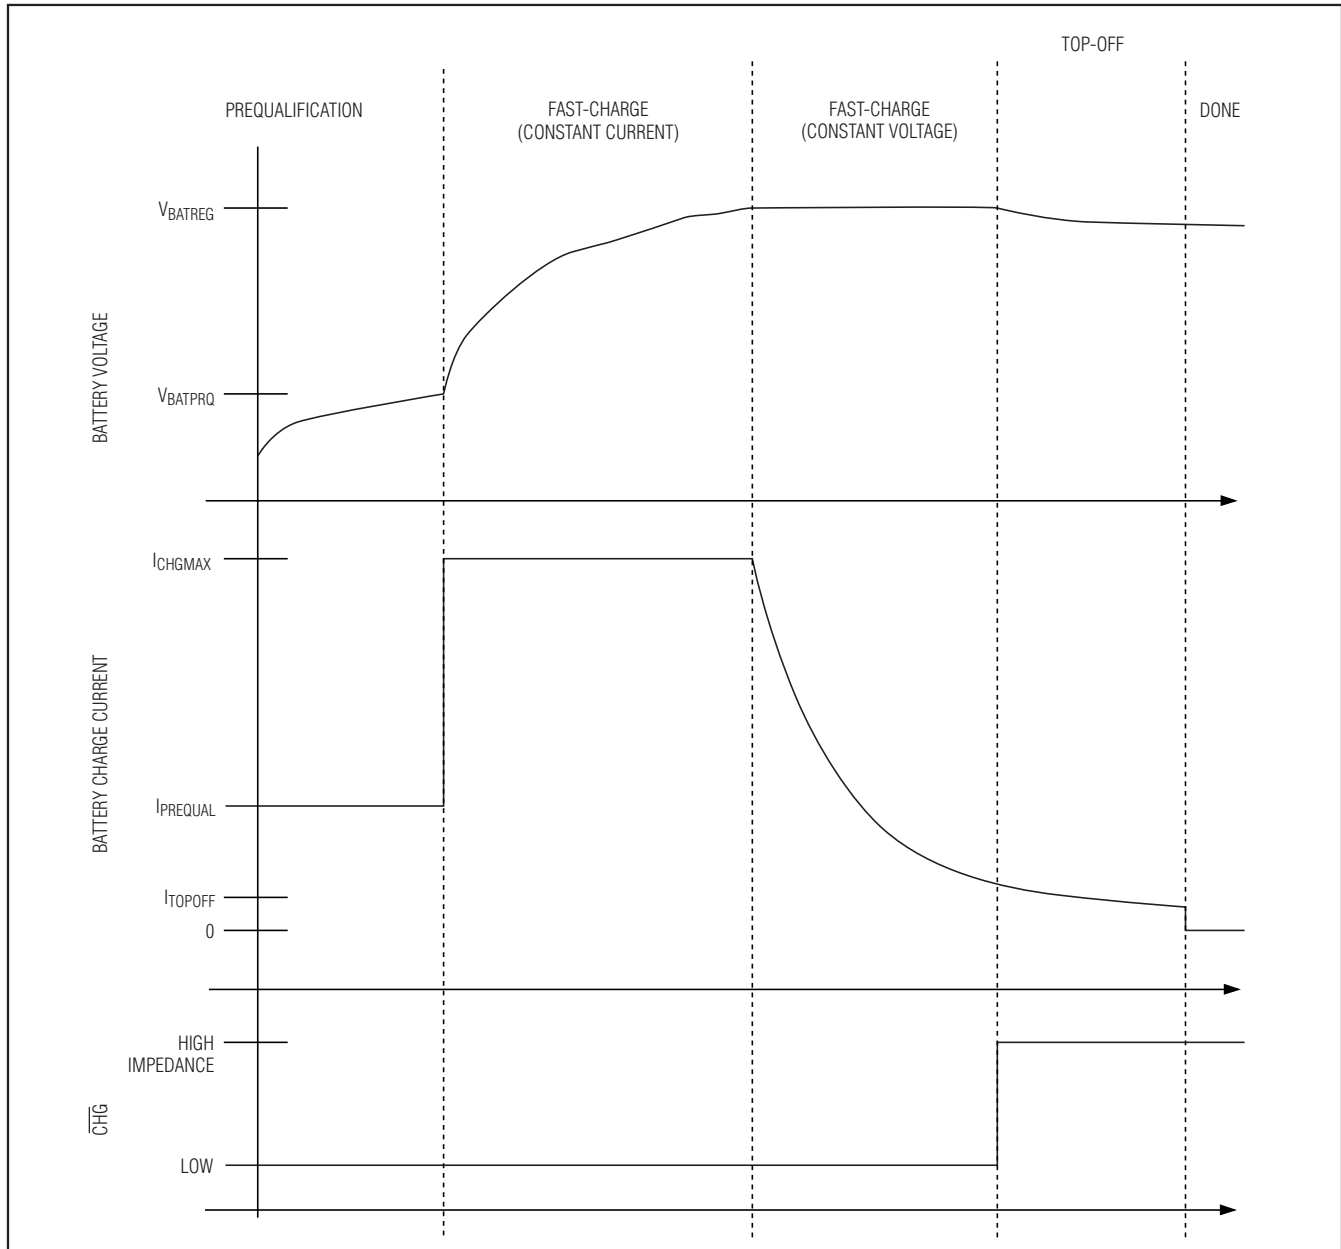
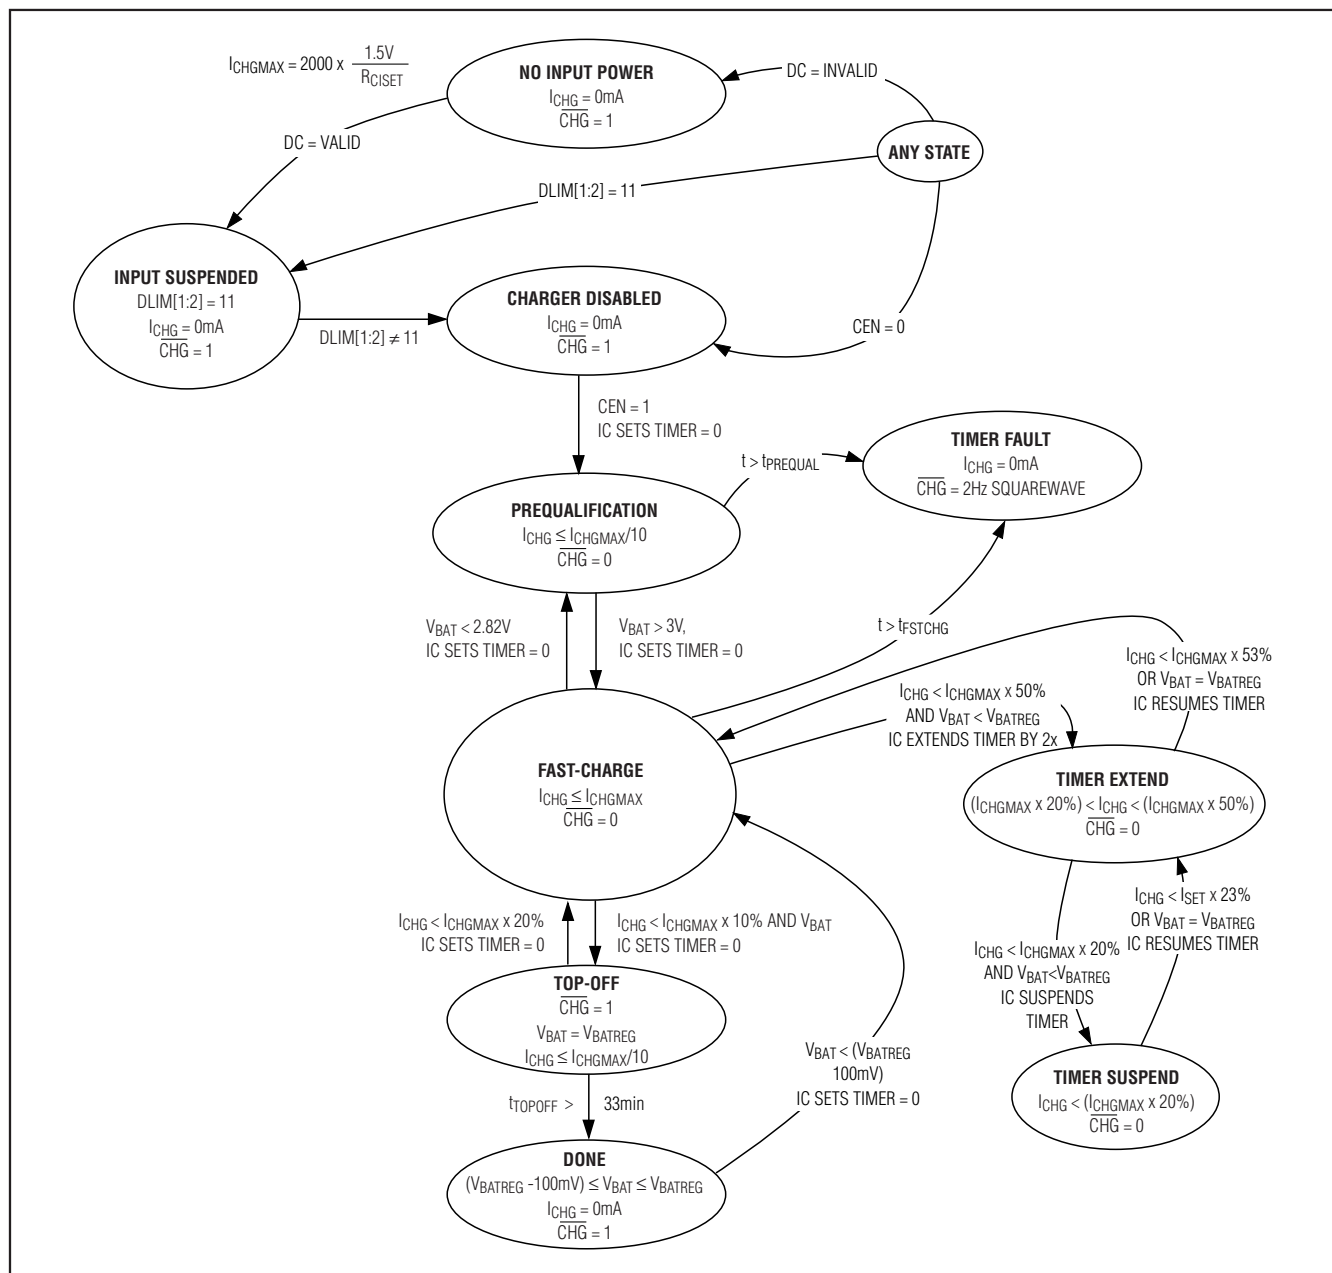

Figure 2. Li+/Li-Poly Charge Profile
Figure 3. Li+/Li-Poly Charger State Diagram
Figure 2 shows the typical Li+/Li-Poly charge profile for the MAX8819_{...}, and Figure 3 shows the battery charger state diagram.
- The battery charger stops charging in done mode as shown in Figures 2 and 3.
$\overline{CHG}$ is an open-drain, active-low output that indicates charger status. As shown in Figures 2 and 3, $\overline{CHG}$ is low when the charger is in its prequalification or fast-charge states. When a timer count is exceeded in either state, $\overline{CHG}$ indicates the fault by blinking at a 2Hz rate and remains in that state until the charger is reset by CEN going low, removal of DC or setting $DLIM[1:2] = 11$.
As shown in Figure 3, a fault timer prevents the battery from charging indefinitely. In prequalification mode, the charge time is internally fixed to 33min.
While in the constant-current fast-charge mode (Figure 2), if the MAX8819_ reduces the battery charge current due to its internal die temperature or large system loads, it slows down the charge timer. This feature eliminates
nuisance charge timer faults. When the battery charge current is between 100% and 50% of its programmed fast-charge level, the fast-charge timer runs at full speed. When the battery charge current is between 50% and 20% programmed fast-charge level, the fast-charge timer is slowed by 2x. Similarly, when the battery charge current is below 20% of the programmed fast-charge level, the fast-charge timer is paused. The fast-charge timer is not slowed or paused when the charger is in the constant voltage portion of its fast-charge mode (Figure 2) where the charge current reduces normally.